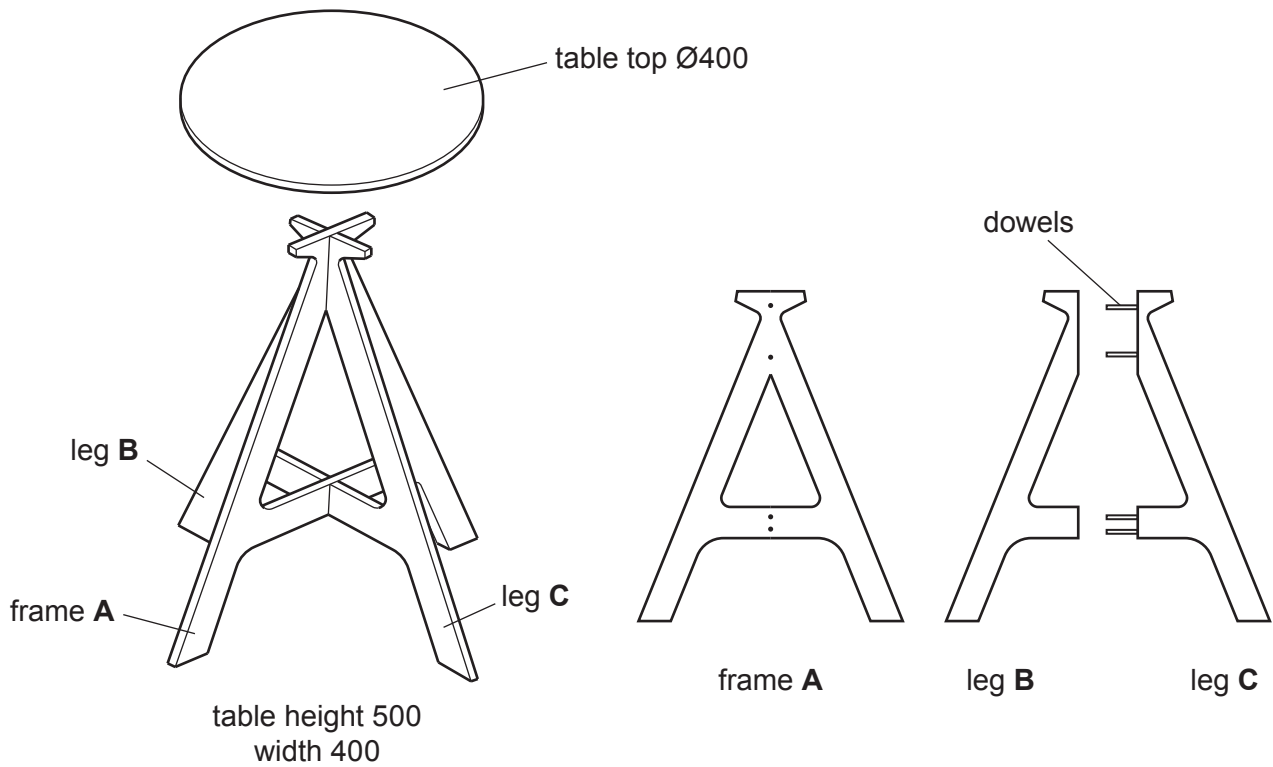

Fig. 11.1
- 11** Fig. 11.1 shows views of a small table made from 15 mm thick plywood. The table top has been removed to show details of the frame and legs. Legs **B** and **C** are joined through frame **A** by means of dowels.